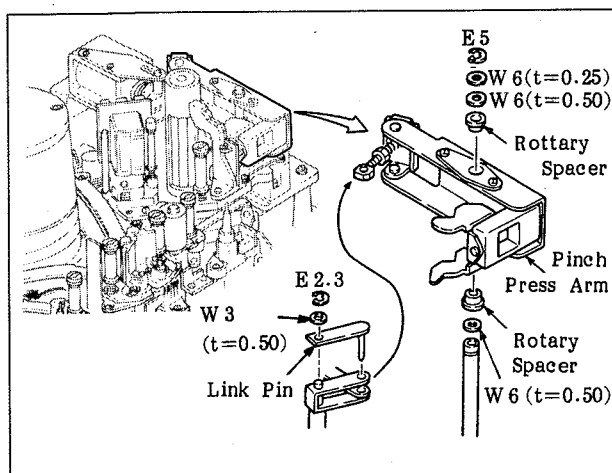

Fig. 6-106 Removal of the Pinch Press Arm
1. Remove the pinch press arm assembly by referring to Figure 6-106.
5. Attach the pinch press arm assembly to the machine by referring to Figure 6-106.